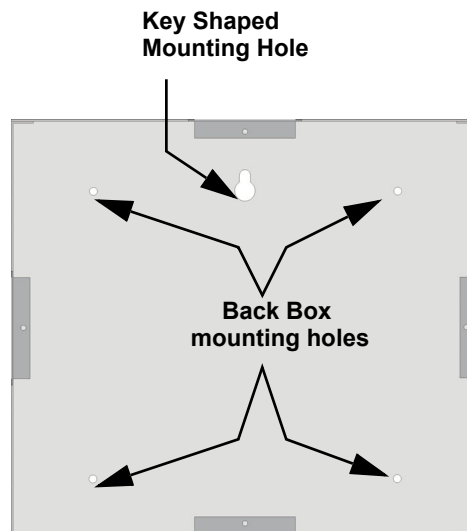

Figure 4.15 Back Box Surface Mount Holes
2. To mount the back box, insert a single screw into the key shaped mounting hole. Do not tighten all the way. See Figure 4.15.
2. To properly mount the back box, insert a single screw into the key shaped mounting hole. Do not tighten all the way. See Figure 4.15.